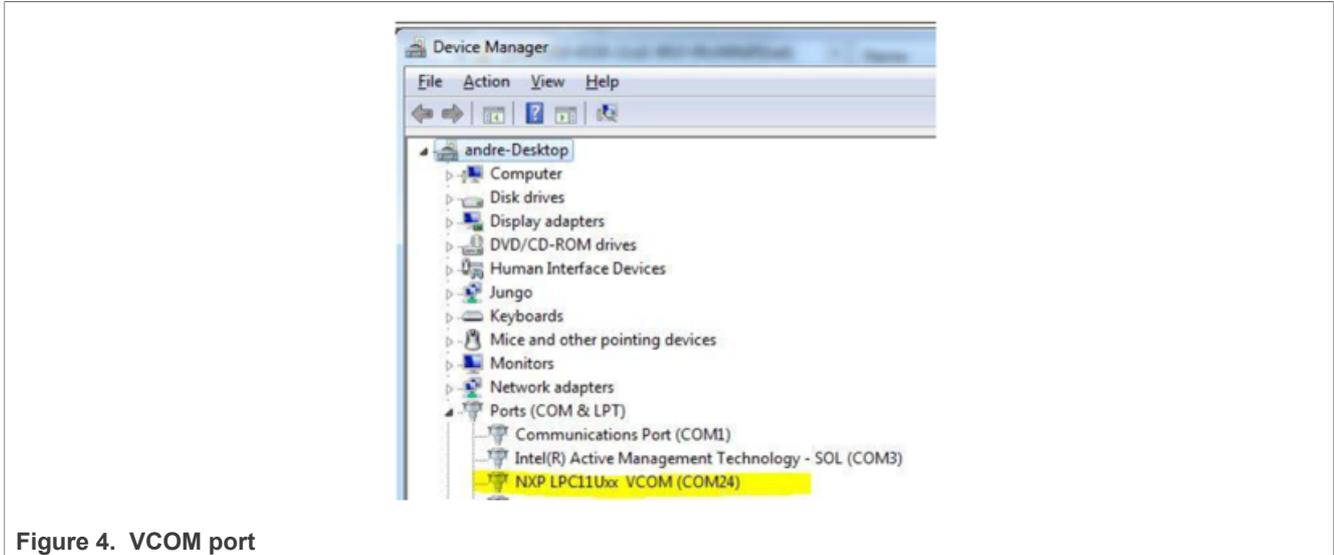

Figure 4. VCOM port
3. Unzip the downloaded package and run the installer (if installing on a Windows machine). An additional VCOM port appears in Windows Device Manager, as shown in Figure 4. This port can be used with any terminal program to allow communication with the target MCU UART over the USB connection.